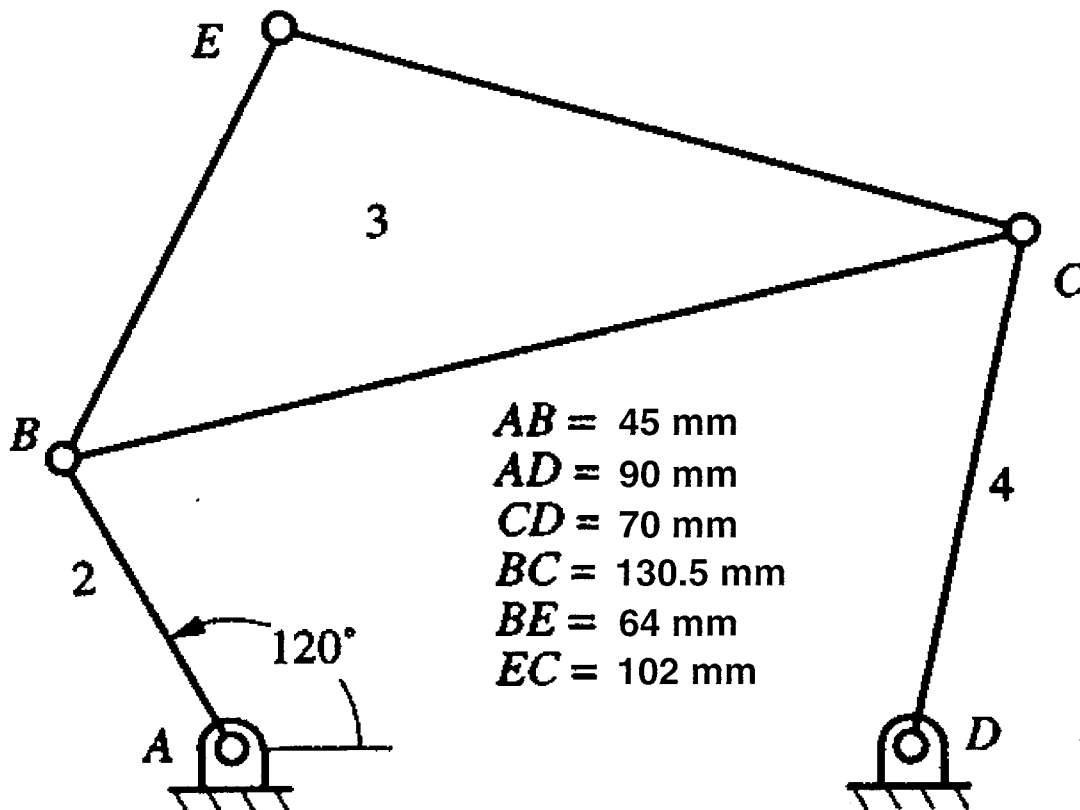

Figure 1
1. For the four-bar linkage shown in Figure 1, assume that the angular velocity of link 2 is 50 rad/s clockwise and that the angular acceleration of link 2 is 1600 rad/s² clockwise.